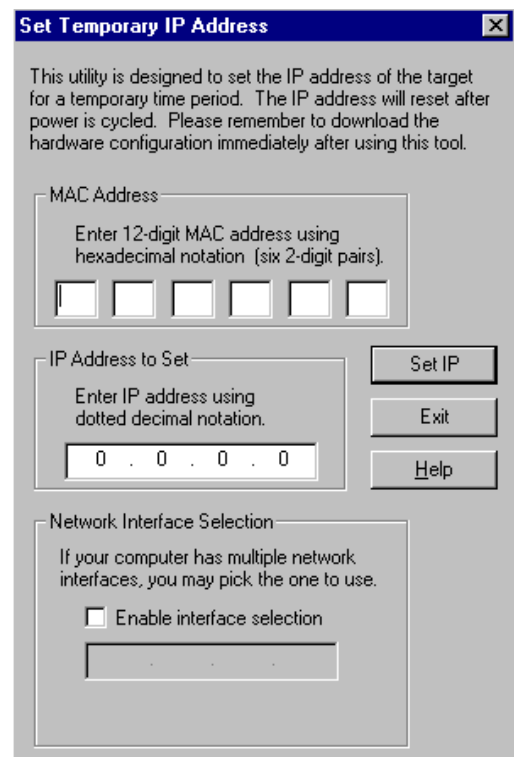

Figure 44: Set Temporary IP Address
2. In the Project tab of the Navigator, right click the PACSystems target, choose Offline Commands, and then choose Set Temporary IP Address. The Set Temporary IP Address dialog box (Figure 44) appears.